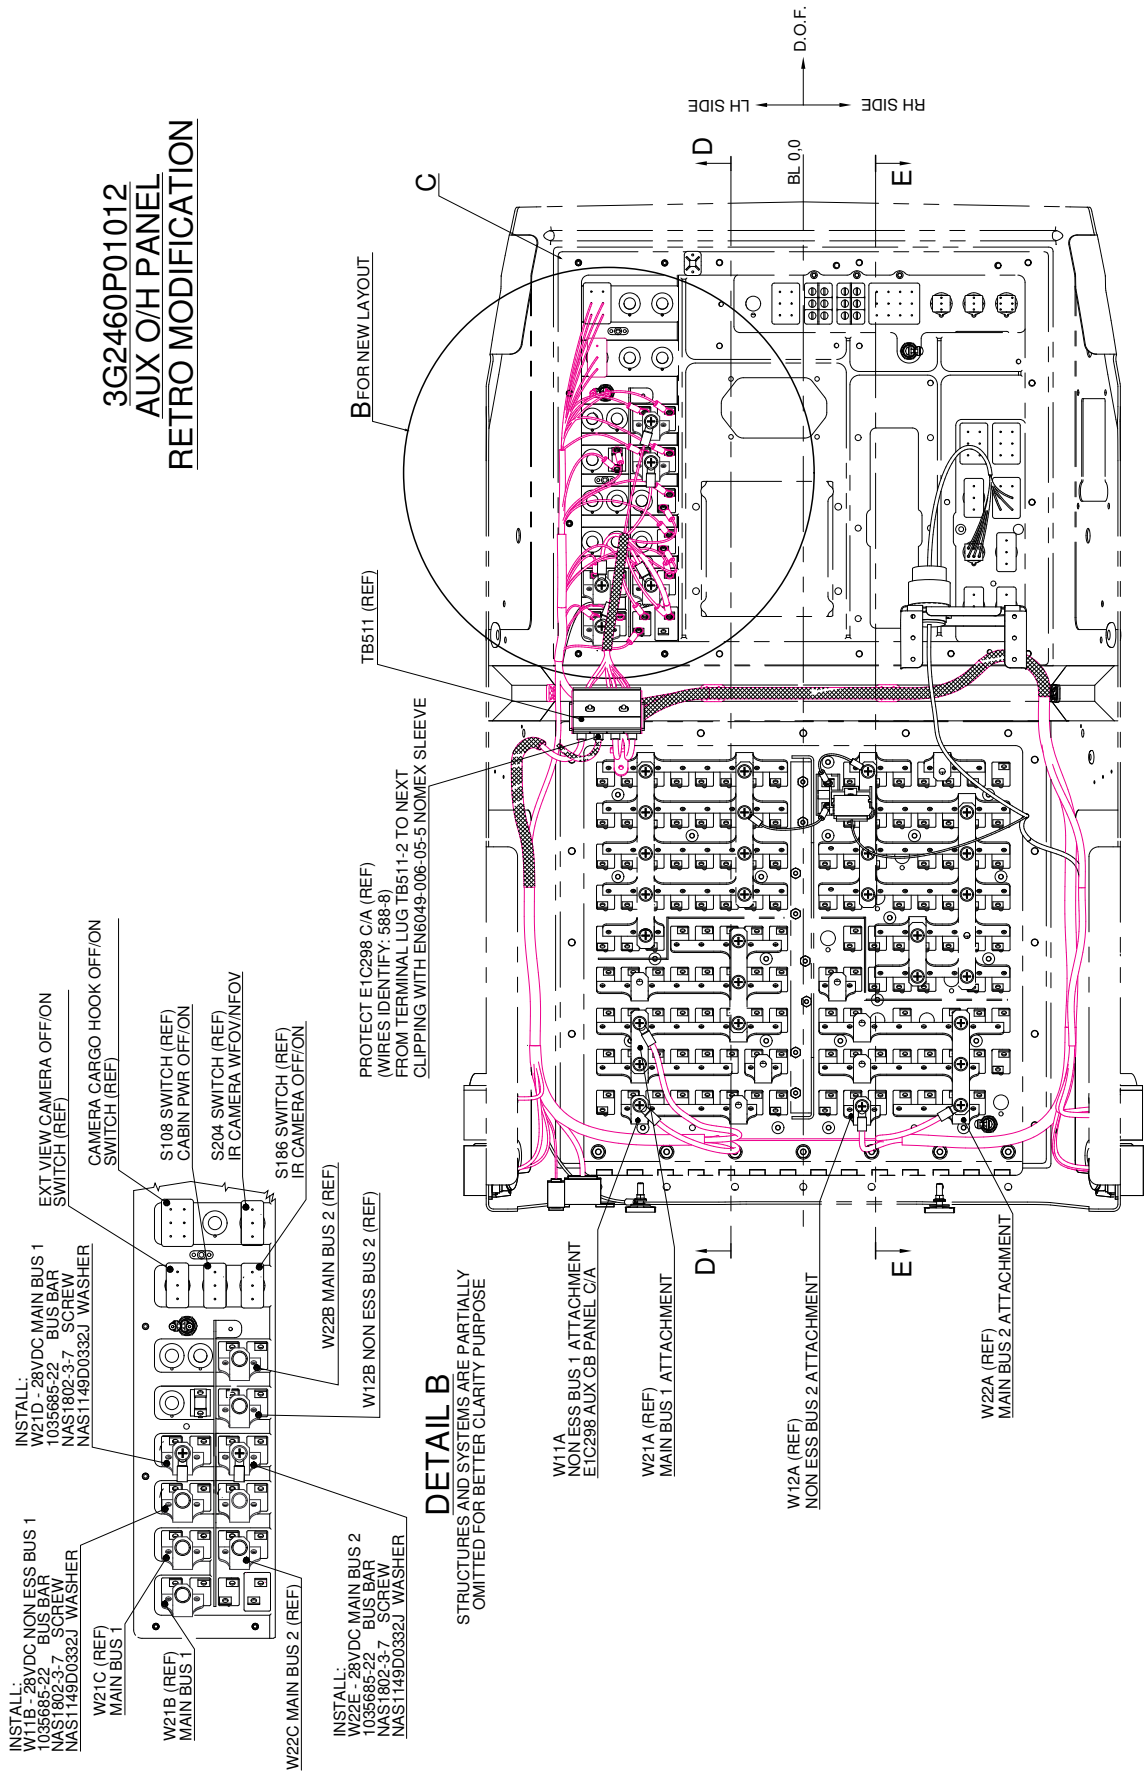

Figure 8
- 6.8 With reference to Figure 8 detail B, install n°3 bus bars P/N 1035685-22 by means of n°3 screws P/N NAS1802-3-7, n°3 washers P/N NAS1149D0332K.
- 6.9 With reference to Figures 8 and 10, lay down the auxiliary CB panel cable assembly P/N 3G9E01C29802 (E1C298) and protect with nomex P/N EN6049-006-05-5.
- 6.10 With reference to Figures 8 and 9, lay down the auxiliary CB panel cable assembly P/N 3G9E01C29803 (E1C298) and protect with nomex P/N EN6049-006-05-5.